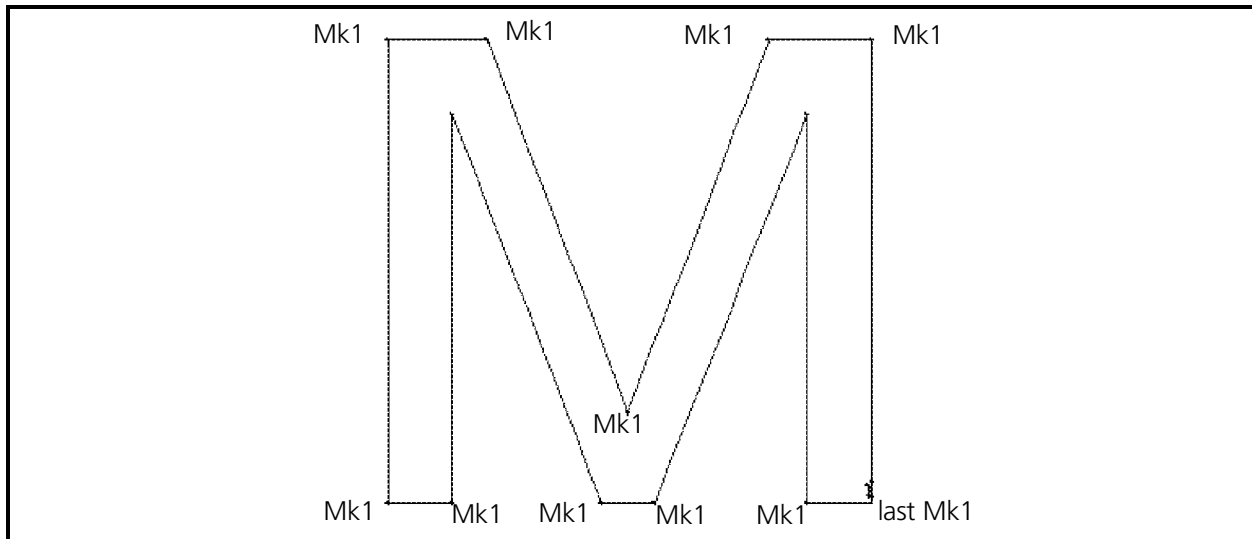

Figure 3-14
2. To generate running stitches from the bottom right corner to the top right corner, put a Mk1 at the top right corner (see Figure 3-14).
3. Now go left to the next corner and enter another Mk1 (see Figure 3-14). Notice that you don't see the stitching between the current entry and the last entry. You will always be one step behind in viewing the digitizing.